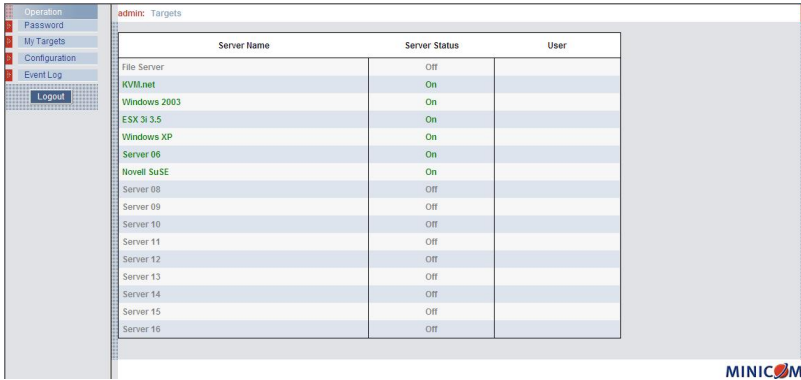

Figure 21 Targets page
4. Press **Enter**. The web interface opens at the Targets page. See Figure 21.